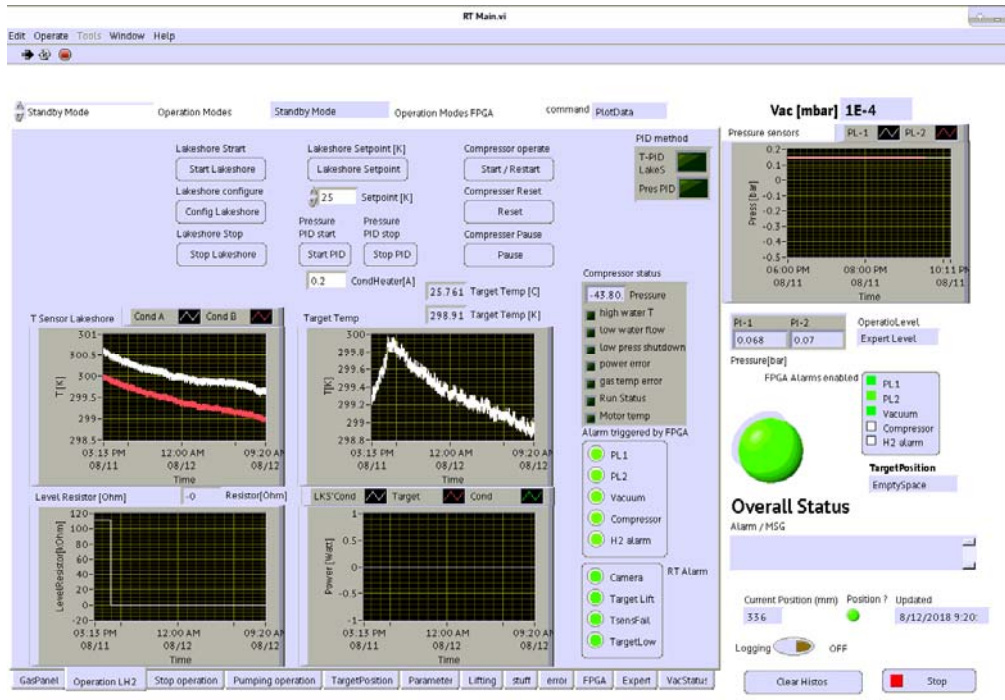

Figure 11: A picture of the 'Operation LH2' tab of RTMain.vi.
6. Monitor target status using 'Operation LH2' sub-panel of RTMain.vi (Fig. 11):
6. On 'Operation LH2' of RTMain.vi (Fig. 11), set Lakeshore set point to 23 K.